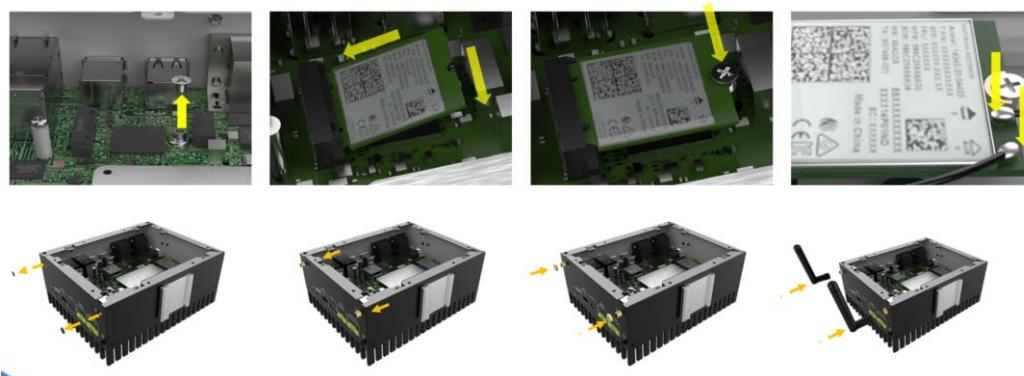

Figure 3-6: Wi-Fi Module Installation
Step 5: Install the external antennas (**Figure 3-6**).